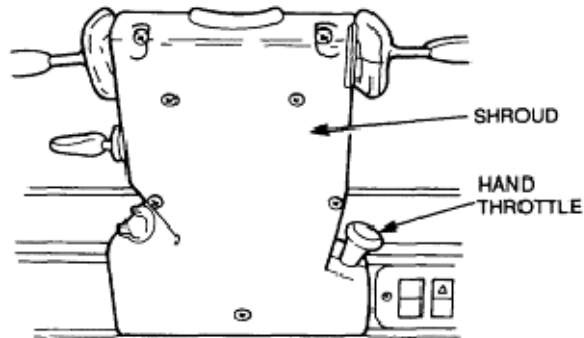

Figure 37 Steering Column Shroud Removal
- d. Remove the seven screws securing the shroud and remove the shroud with the hand throttle attached (Figure 37).